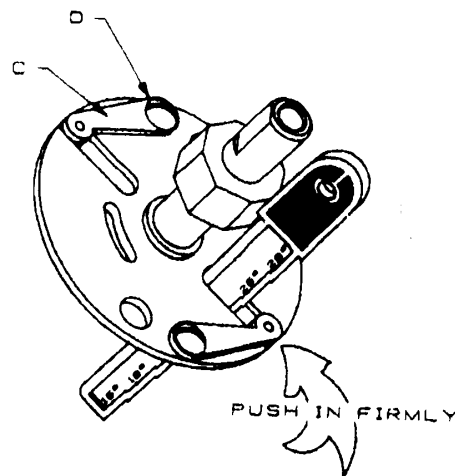

Figure 2 – Centrifugal Advance Adjustment
- l. Insert degree key into advance slot to indicate 28° centrifugal advance (advance shown on degree key is in crankshaft degrees advance as shown in Fig 2) to set maximum advance.